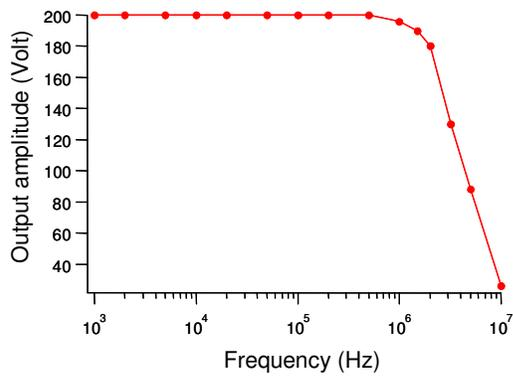

Figure 2. Frequency response at 200Vpp output voltage
The amplifier should not be used for telecommunication as described in the R&TTE directive 95/5/EC. To prevent unwanted radio emission, the TDK ferrite ring which is supplied with the instrument should be mounted on the output cable close to the WMA-320 housing as indicated in Fig. 2, when square wave output signals above 100kHz and 50V are generated. In this case, the length of the output cable should be no more than 1.5 meter. The measurement is not influenced by this ring; it is only required to comply with European EMC legislation.
Figure 2. The ferrite ring (type TDK ZCAT3035-1330) should be placed on the output cable as indicated when a square wave of more than 100kHz and 50V is generated to prevent unwanted radio emission in the 30MHz region.
- Frequency response (Fig. 2, 3)